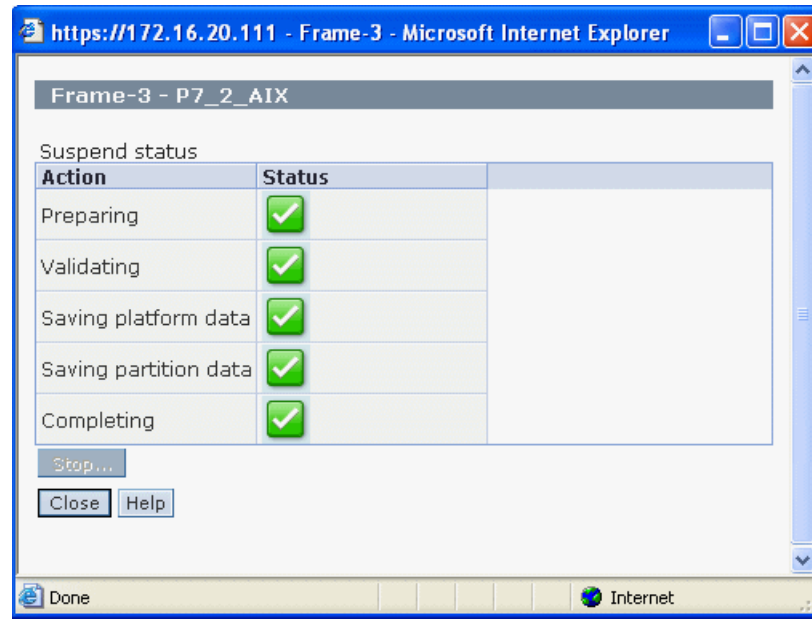

Figure 17-32 Finished partition suspend operation
3. After completion, the **Suspend status** windows will provide information regarding the status of the operation, as shown in Figure 17-32. You can now select **Close**.